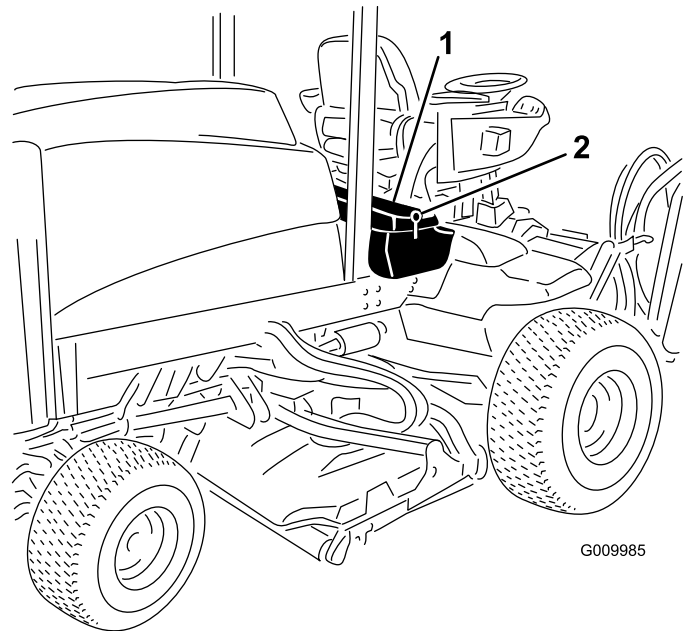
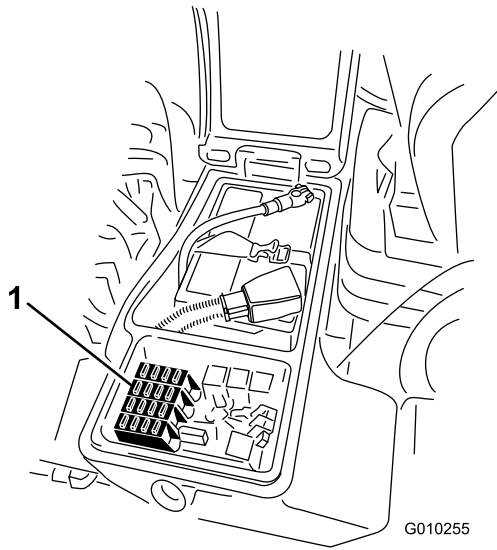

Figure 62
Figure 63
1. Loosen the latch for the cover of the right storage box and raise the cover (Figure 62).
1. Loosen the latch for the cover of the right storage box and raise the cover (Figure 62) to expose the fuse block (Figure 63).
2. Replace the open fuse(s) as needed (Figure 63).
3. Close the cover of the right storage box and secure the cover with the latch (Figure 62).